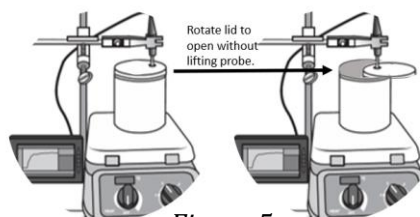

Figure 5.
10. Remove the temperature probe from the test tube and dry it with a paper towel. Suspend it from the clamp and insert it through the outer hole on the lid. Adjust the clamp so that the probe is submerged as low as possible in the water but high enough above the lid so that you can open the lid by rotating it without lifting the probe (see Fig. 5).